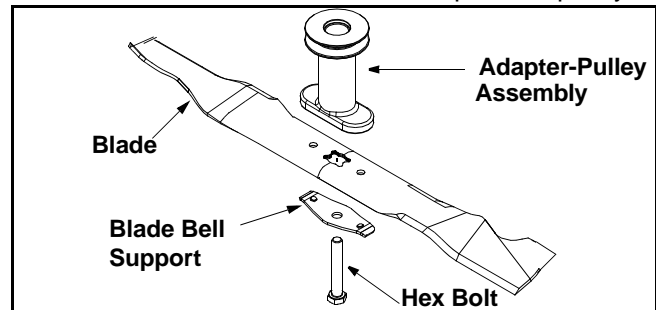

Figure 13
3. Remove the hex bolt which holds the blade adapter-pulley assembly to the engine crankshaft. See Figure 13. Remove the pulley assembly and the bell support from the crankshaft.